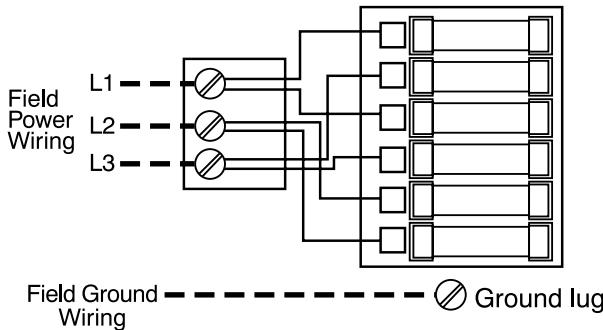
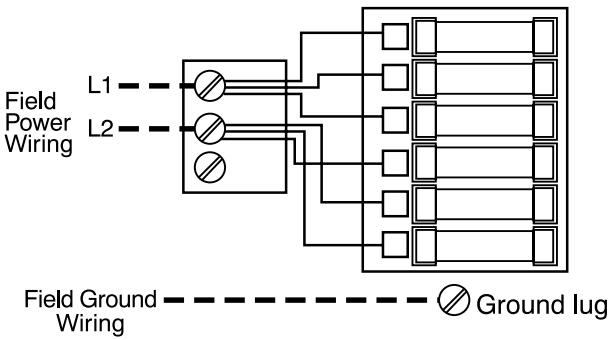
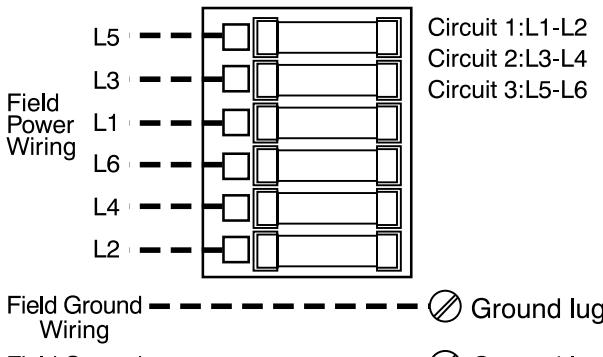

Fig. 18 – 24 and 30 kW Heaters (3-Phase Wiring Factory Supplied)
Fig. 19 – 24 and 30 kW Heaters
Fig. 20 – 24 and 30 kW Heaters
3. Fused heaters: See Fig. 14, Fig. 18, Fig. 19, and Fig. 20.